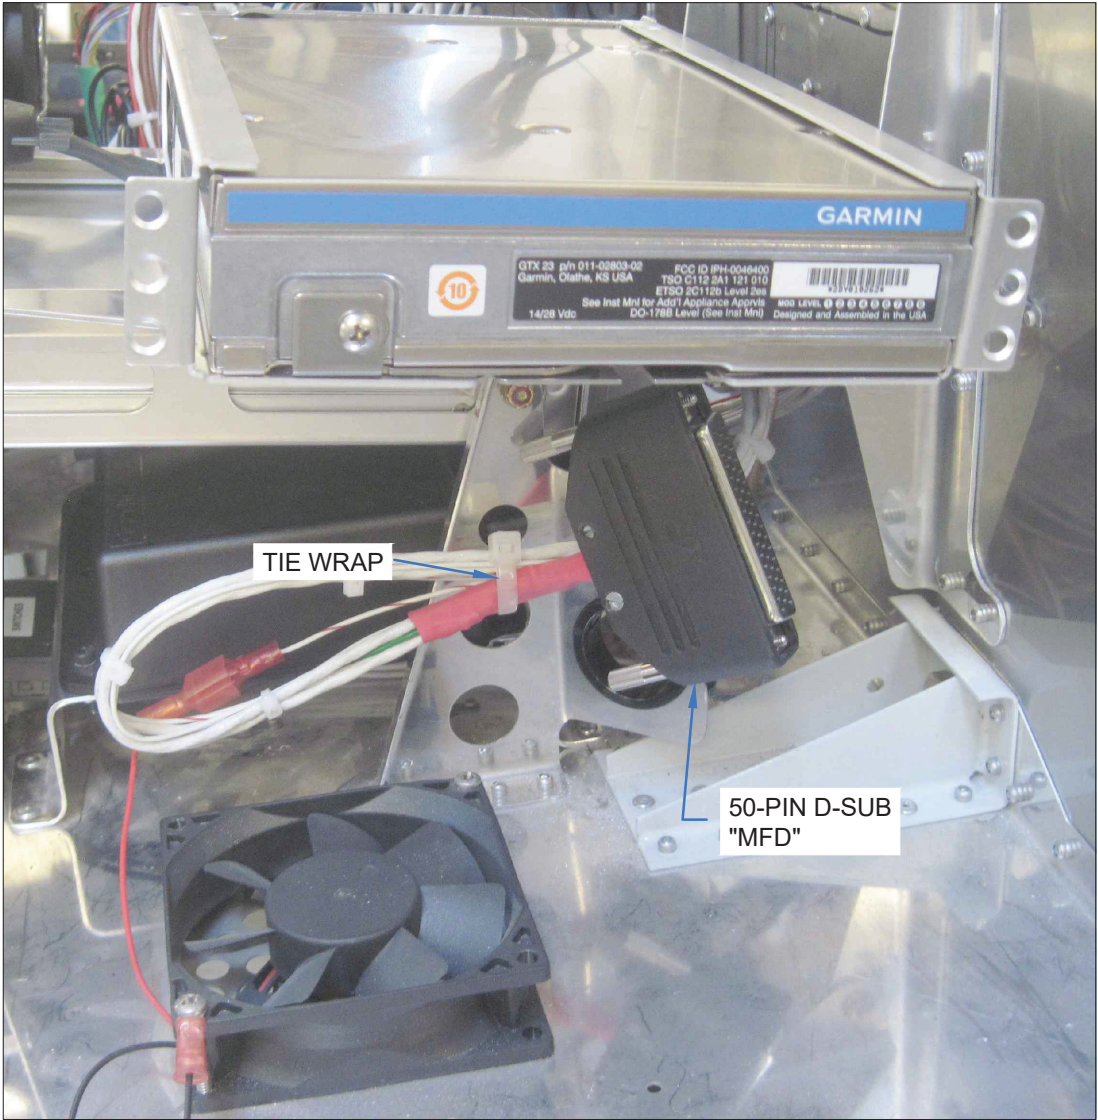

FIGURE 2: SECURING THE 50-PIN D-SUB CONNECTOR "MFD"
- Step 4: Route and stow the 50-pin d-sub connector labeled "MFD" from the WH-00134-2 as shown in Figure 2.